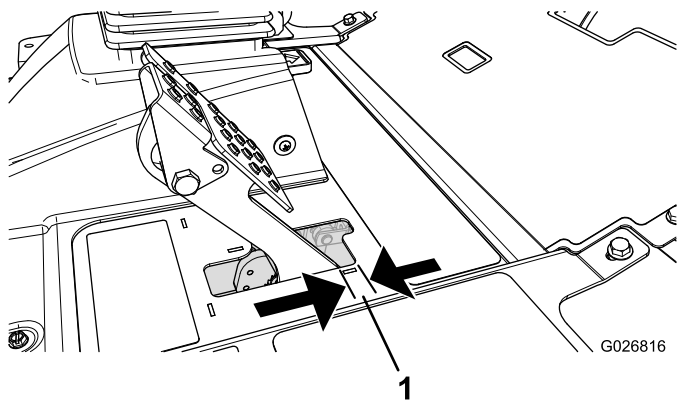

Figure 112
4. Lightly press the brake pedal; and measure the distance the pedal moves without resistance (Figure 112).
Note: Adjust the brakes if there is more than 2.5 cm (1 inch) of free travel (Figure 112) of the brake pedal, or if more parking-brake force is required.
6. Tighten the rear nuts to move the cable backward, until brake pedal has 6 to 13 mm (1/4 to 1/2 inch) of free travel (Figure 112), before the parking brake engages the wheels.